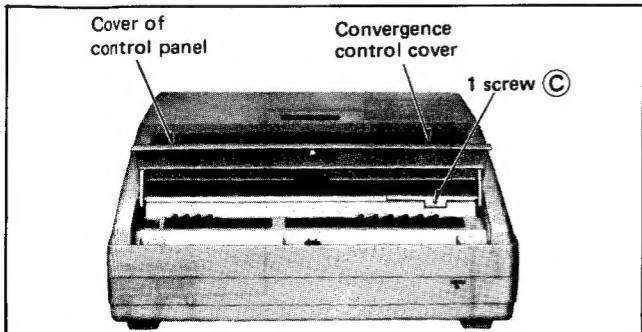

Fig. 4
- 2) Remove a 1 screw **(C)** in fig. 4.